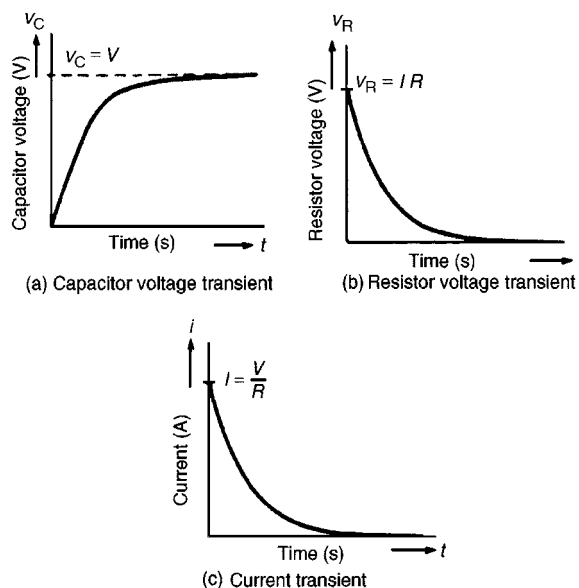

Figure 18.2
- (c) A short time later at time t_1 seconds after closing S , the capacitor is partly charged to, say, q_1 coulombs because current has been flowing. The voltage v_{C1} is now (q_1/C) volts. If the current flowing is i_1 amperes, then the voltage drop across R has fallen to $i_1 R$ volts. Thus, Equation (2) is now $V = (q_1/C) + i_1 R$
- (e) Ultimately, a few seconds after closing S , (i.e. at the final or **steady state** condition), the capacitor is fully charged to, say, Q coulombs, current no longer flows, i.e. $i = 0$, and hence $v_R = iR = 0$. It follows from Equation (1) that $v_C = V$.
- (f) Curves showing the changes in v_C , v_R and i with time are shown in Fig. 18.2
- (a) If a constant d.c. voltage is applied to a series connected C – R circuit, a transient curve of capacitor voltage v_C is as shown in Fig. 18.2(a).
The transient curves shown in Fig. 18.2 have mathematical equations, obtained by solving the differential equations representing the circuit. The equations of the curves are: